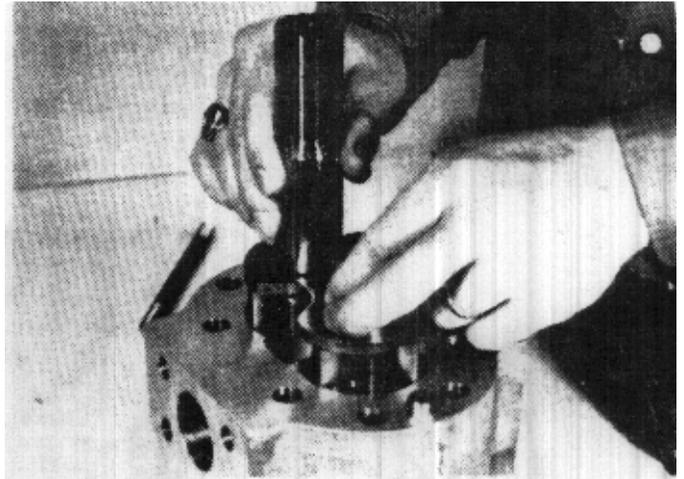

FIGURE 49
- Grasp the drive shaft extension and lift upward to dislodge the pressure plate. Grasp the pressure plate between thumb and forefinger and lift straight up off the shafts. (Figure 49)